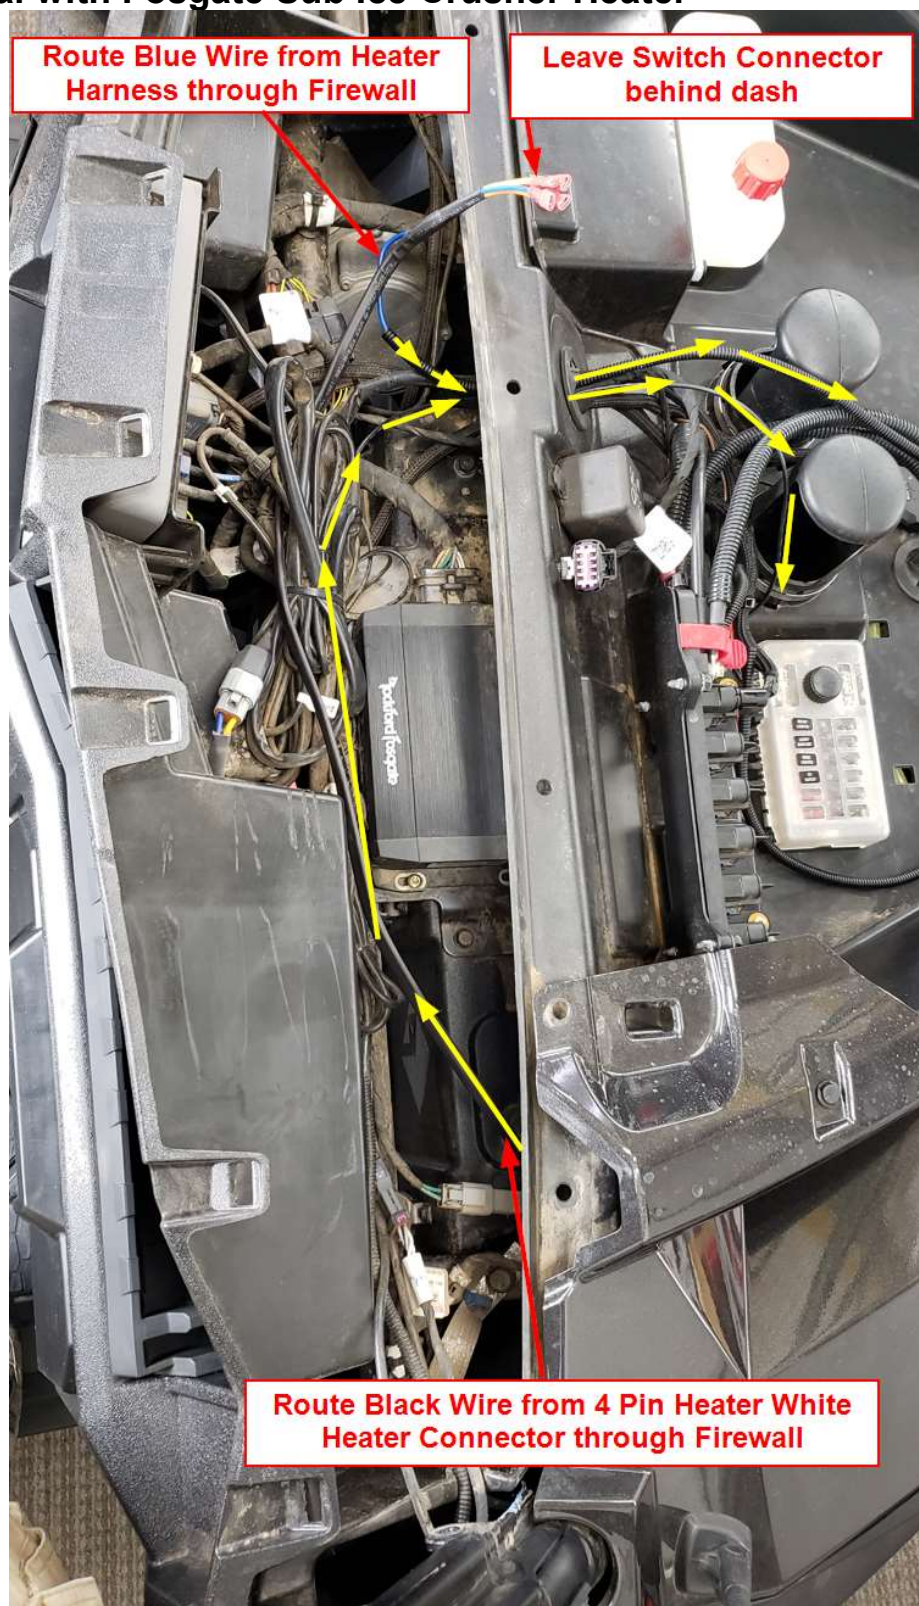

Figure 31
- c. Use the Butt Splice Connectors to connect the Blue Heater Harness Wire to the YELLOW Pulse Connector wire. Connect the Black Heater Harness Wire to the BLUE Pulse Connector Wire. The Red Wire on the Pulse Connector can be left blank or crimped with the remaining Butt Splice Connector and zip tied to the harness, it will not be used. See Figure 30 and Figure 31.